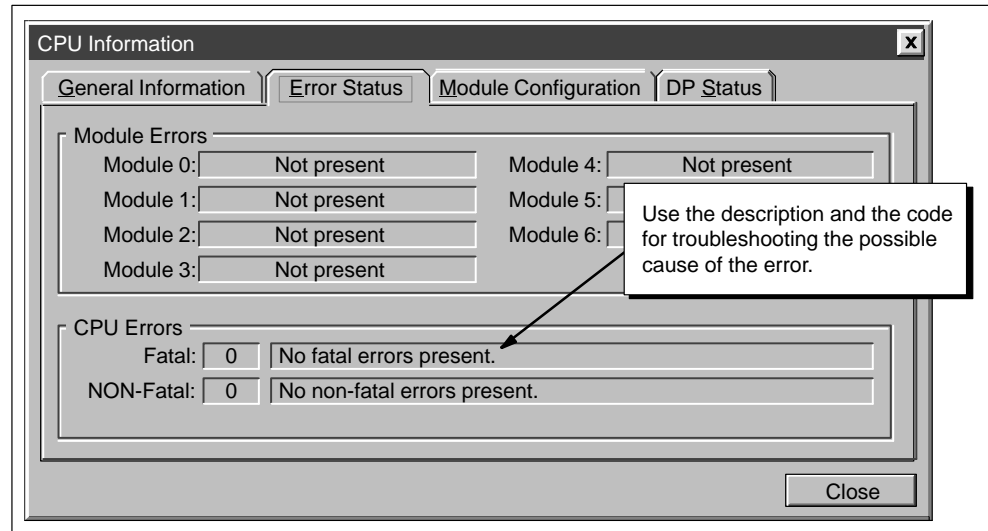

Figure 6-16 CPU Information Dialog: Error Status Tab
The S7-200 CPU classifies errors as either fatal errors or non-fatal errors. You can use STEP 7-Micro/WIN to view the error codes that were generated by the error. Figure 6-16 shows the dialog box that displays the error code and the description of the error. Refer to Appendix C for a complete listing of the error codes.
Non-fatal errors can degrade some aspect of the CPU performance, but they do not render the CPU incapable of executing your program or from updating the I/O. As shown in Figure 6-16, you can use STEP 7-Micro/WIN to view the error codes that were generated by the non-fatal error. There are three basic categories of non-fatal errors:
- Run-time programming errors. You (or your program) can create error conditions while the program is being executed. For example, an indirect-address pointer that was valid when the program compiled may be modified during the execution of the program to point to an out-of-range address. This is considered a run-time programming error. Use the dialog box shown in Figure 6-16 to determine what type of error occurred.